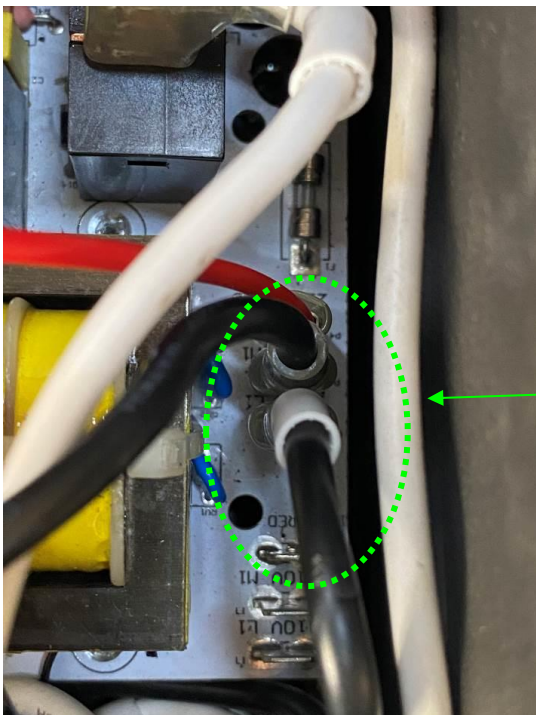

Figure 10: Attaching wires to 220 Volt connectors
4. Reattach each connector to the 220V location, L1, M1, 220V RED (Fig. 10). Also refer to the electrical diagrams at the end of these instructions for reference.